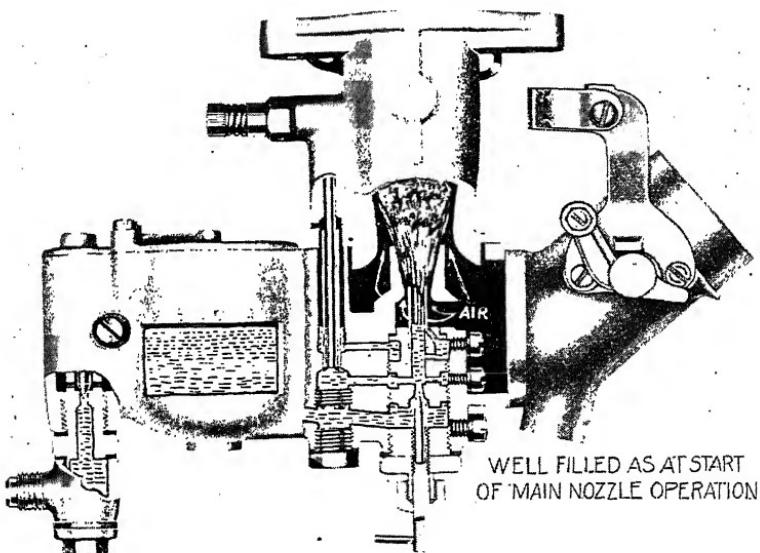

Fig. 115. Operation of Tillotson High-Speed Jet
**Operation of Main Nozzle.** As the fuel begins to deliver from the high-speed jet, see Fig. 115, the fuel standing in the accelerating well surrounding the by-pass tube is drawn back through channel  $K$  into the upper cross holes of the main nozzle. When the well is emptied, these holes act as air-bleed nozzle restrictions in helping